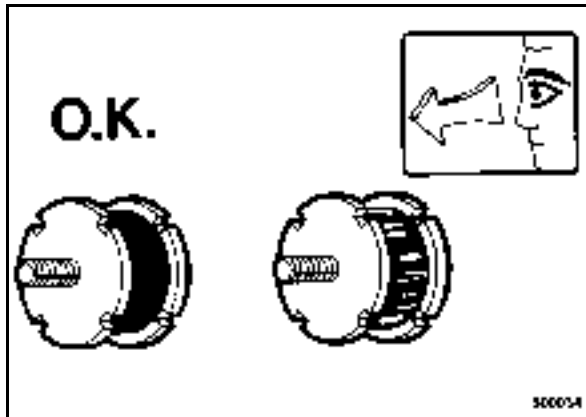

Fig. 121
- Check all rubber buffers (Fig. 121) for tight fit, cracks and damage and replace immediately if damaged.